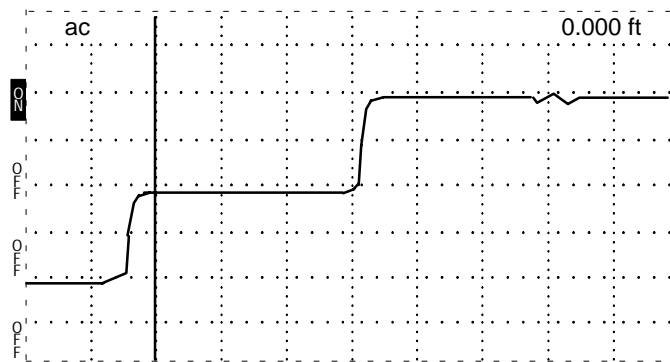

Figure B-2: Measurement Display with 3-foot Cable
2. Connect the 3-foot cable to the front-panel CABLE connector. The display should now look like Figure B-2.